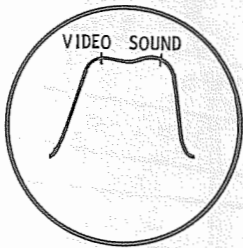

FIG. 201
| 1. Two 120Ω Carbon Resistors | Across antenna terminals with 120Ω in each lead. | 195MC | 193.25MC 197.75MC | 10 | Vert. Amp. thru 10K to point ①. Low side to chassis. | A201, A202, A203 | Adjust A201 and A202 for maximum amplitude and symmetry with markers as shown in Fig. 201. Increase bias for MINIMUM amplitude of response curve. Without changing the bias adjust A203 to obtain MINIMUM response on the scope. |
| 2. " | " | 213MC | 211.25MC 215.75MC | 13 | " | | Check for response similar to Fig. 201. If markers fall below 70% on any channel, make compromise adjustments of A201 and A202, with channel switch set to that channel. Check all other channels to see that they have not been seriously affected. |